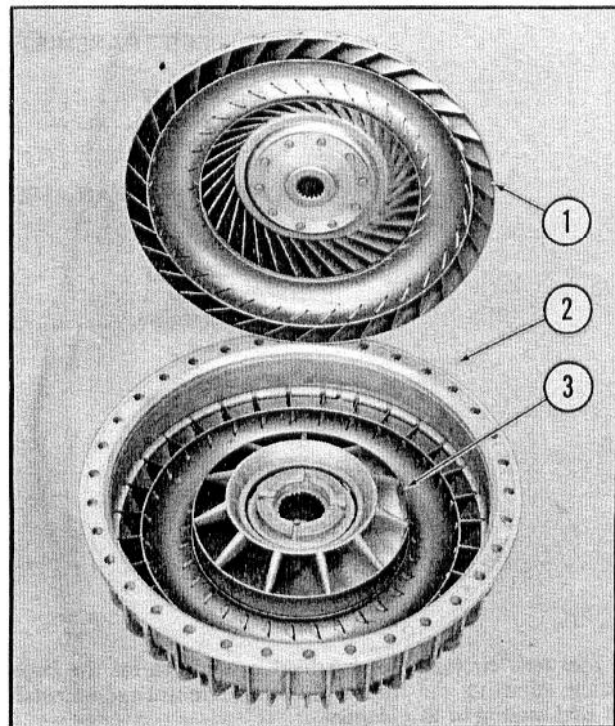

Fig. 4 - Turbine Assembly Removed
4. Grasp the turbine by its hub and lift it out of the impeller. See Fig. 4. Drain any remaining oil from the turbine assembly.
5. Lift the stator assembly (with sprag clutch installed) out of the impeller. See Figs. 4 and 5.